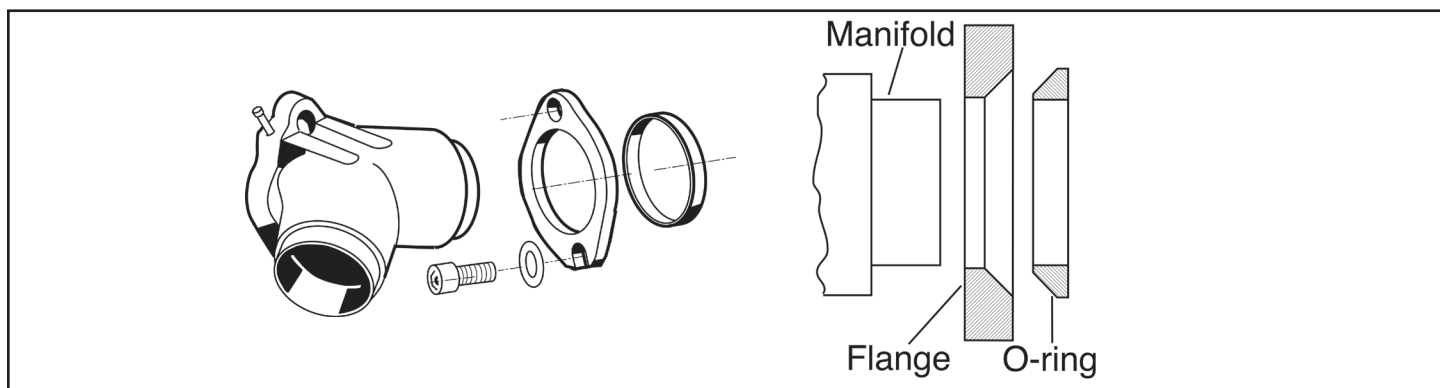

Figure 7
5. Install intake manifold, mounting flanges and o-ring seals. Be sure o-rings and flanges are assembled in correct sequence. Tapered side of o-ring must fit into tapered side of flange. **See Figure 7.** Use flange marked "F" on front head and flange marked "R" on rear. Slotted end of mounting flange goes toward lower manifold mounting hole. Flat washer provided is used on slotted end of flange. Do not tighten mounting flange screws.